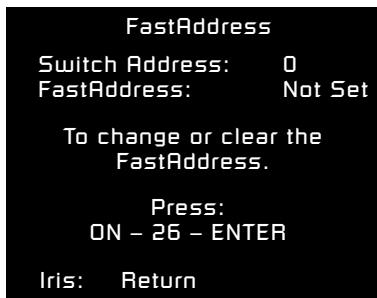

Figure FA1
- b. Press “On-999-Enter,” and follow the instructions on the screen (see **Figure FA1**).